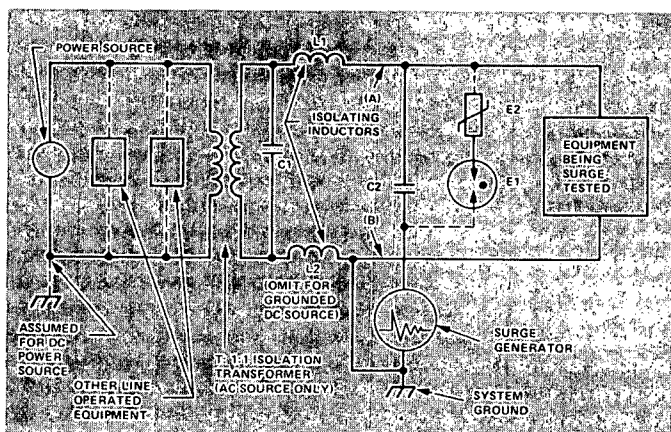

Figure 5
Figure 5 shows capacitor coupling for a surge generator driving ac or dc power lines. One line (A) is being driven with respect to the other (B), so the setup is called a normal-mode connection. (Depending on the branch of technology involved, it may also be called series-, differential-, transverse- or even metallic-mode, the last deriving from the fact that only metal—i.e., no ground—is involved.)
A disadvantage of gas-tube coupling (shown in Figure 5 as tube E1 connected in-circuit *instead* of capacitor C2 via the optional, dotted lines), is that once it has started conducting, like an SCR, it must see almost zero voltage across its terminals before it will turn off. Thus it must be used with care, since some circuits have standing potentials greater than the arc or breakdown sustaining voltage of the tubes.